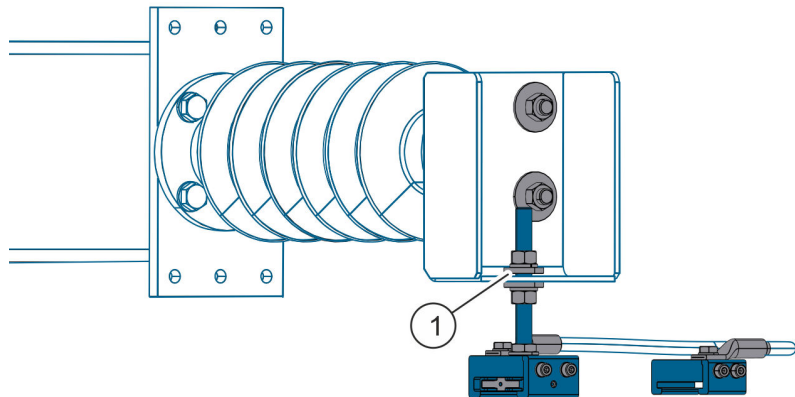

Fig. 17: Assembling potential equalisation
4. ▶ Assemble the potential equalisation on the support (Fig. 17/1).